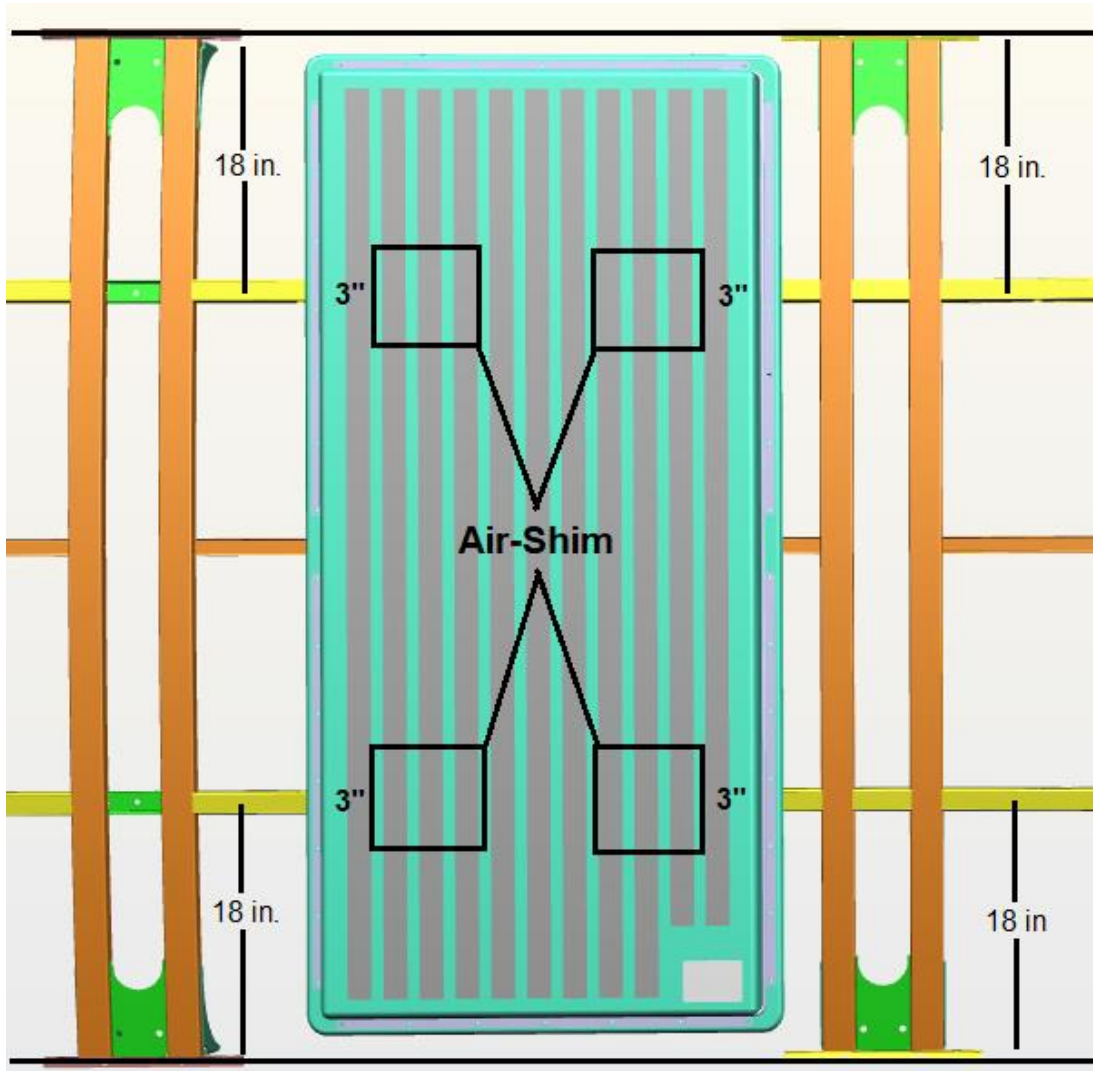

Figure 21: Air-Shim location reference.
35. To locate the roof structure tubes, measure approximately 18.0 inches from inside edge of the side structure tube. Install 4 each Air-Shims under the ESS unit approximately 3 inches from the edge of the bottom of the tub to the edge of the air-shim. Centering the Air-Shims with the roof structure tubes. Do not inflate. See figure 21.